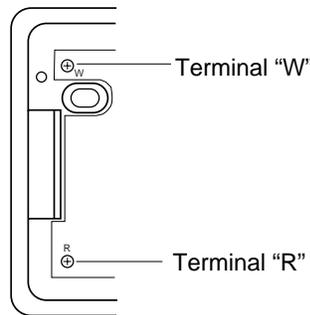

Figure 46 - Thermostat Base Terminals "W" and "R"
- Connect one bare wire end to each terminal ("W" and "R") of the thermostat base (see Figure 46).